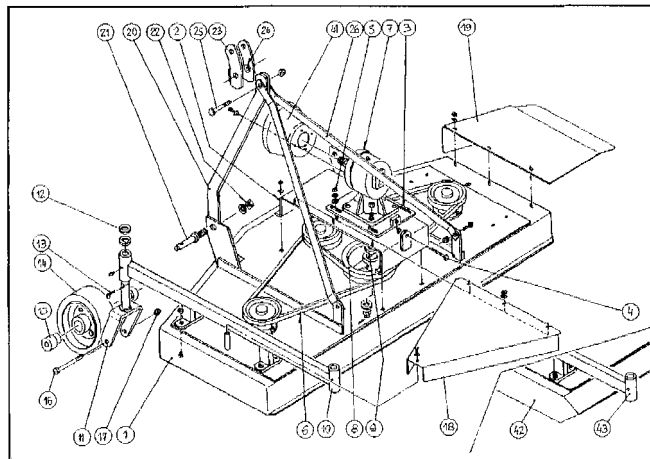

figure 1
- Assemblage de la machine (figure 1)